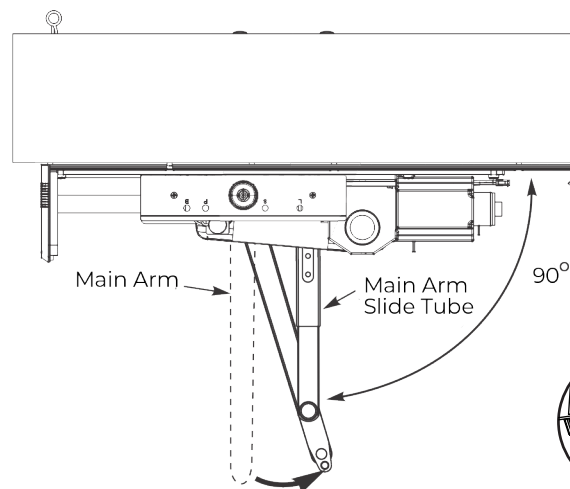

Figure 24 View from ceiling looking downward
- With door closed, rotate main arm away from hinge until adjusting tube is perpendicular (90 degrees) with door. (Figure 24)